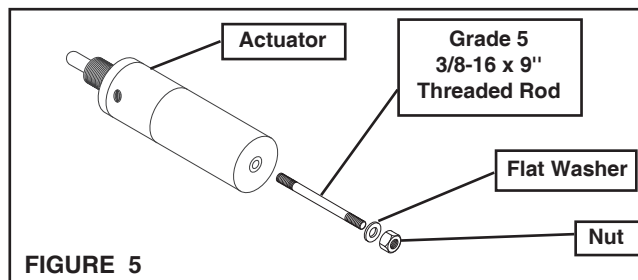

FIGURE 5
2. Using the Nexen Manual Release Kit (Product No. 933596), manually release the brake by inserting the Grade 5, 3/8-16 x 9" Threaded Rod into the back of the Actuator; then, using the Flat Washer and Nut, tighten the Nut to release the brake (See Figure 5).